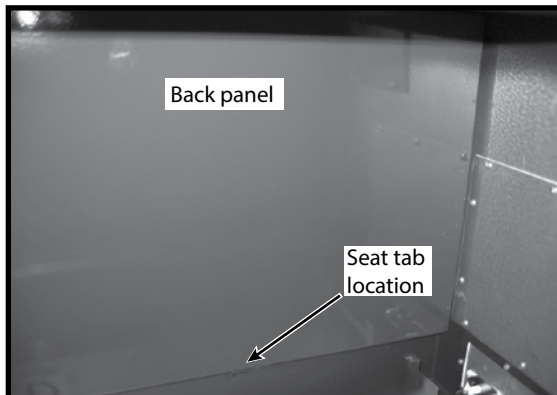

Figure 45: Right seat tab.
1. Insert the back panel (Figure 45) into the firebox by tilting the panel and rest the panel on the seat tabs at the back of the firebox.